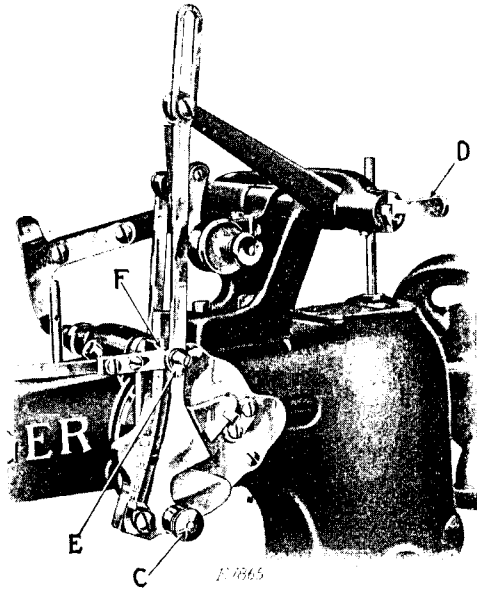

Fig. 13. Machine Adjusted for Flat Stitch Embroidery
lower the presser bar; draw the spring plunger (C, Fig. 13) toward you and move it to the left as far as it will go, then release it.
See that the lever (D, Fig. 13) is raised and pointing toward you. Loosen the wing nut (E, Fig. 13), turning it over to the left as far as it will go. The machine is now ready for operation.
The width of bight or extent of the lateral vibrations of the needle for flat stitch embroidery is regulated by the knee lifter which can be operated to make any width of bight up to  $\frac{3}{8}$  inch. When the slide block (F, Fig. 13) is moved downward by operating the knee lifter, from zero to one, the needle will vibrate  $\frac{1}{2}$  inch, and the width of bight will be increased  $\frac{1}{32}$  inch for each additional number.
Remove the presser foot, lower the presser bar and place needle plate 234428 in the machine as instructed on page 11. Draw the spring plunger (C, Fig. 13) toward you and move it to the left as far as it will go, then release it.
Remove the spur plate and place needle plate 234428 in the machine as instructed on page 11. Remove the presser foot and lower the presser bar. Draw the spring plunger (C, Fig. 13) towards you and move it toward the left as far as it will go, then release it. See that the lever (D, Fig. 13) is raised and pointing toward you. Loosen the wing nut (E, Fig. 13) and move it down to the desired width of bight, then tighten the wing nut (E).